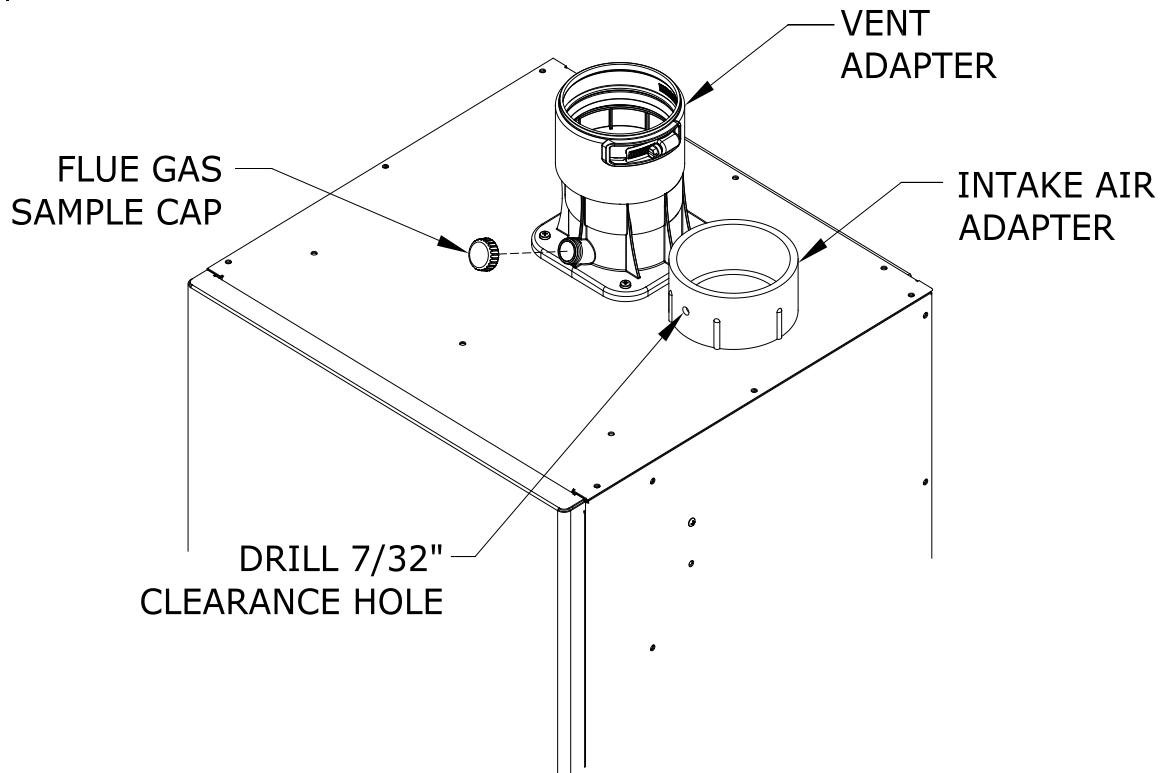

Figure 7.27: Vent Connections and Flue Gas Sample Cap Location
- **Never leave the boiler in operation without the gas sample cap in place (Figure 7.27).**
- a. The vent adaptor has three different inside diameters. The middle inside diameter accepts 3" nominal PolyPro (Figure 7.27). A locking band clamp in the adaptor prevents the vent pipe from coming out of the adaptor once it is installed and tightened. Lubricate the gaskets in the vent adaptor with soapy water and insert the first piece of 3" PolyPro into the adaptor until it bottoms out. Tighten locking band clamp to secure vent pipe.